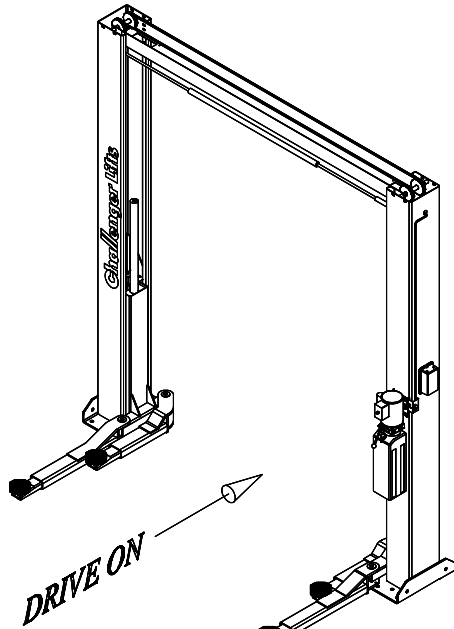

Fig 2
3. **Lift orientation: CAUTION!!!** If the lift is not installed in this manner, the arms may damage the power unit during operation. **See Fig 2.**